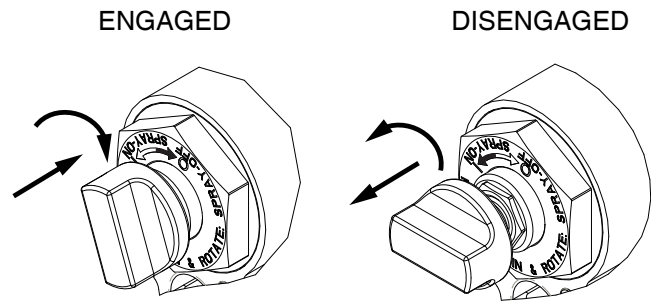

FIG. 6 Piston Safety Lock
- Engage the piston safety lock. See FIG. 6.
Push the knob in and turn clockwise. If engaged, the gun will not actuate. See FIG. 6.
Push the knob in and turn counterclockwise until it pops out. There will be a gap between the knob and the gun body. See FIG. 6.
1. Engage the piston safety lock. See FIG. 6.
- Engage the piston safety lock (G). See FIG. 6.